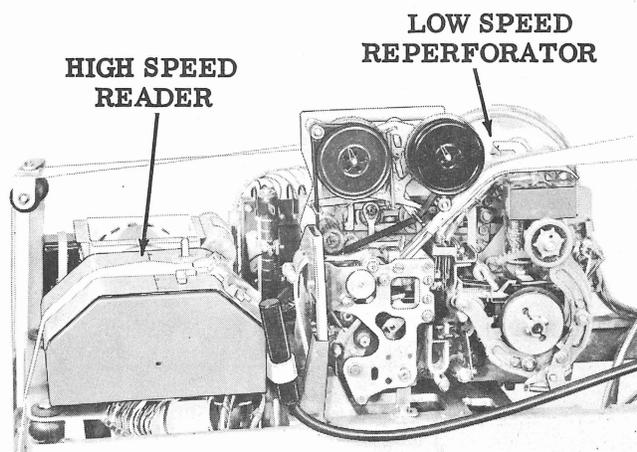

Figure 20 - Low-to-High Punch-Reader Assembly
(2) On L/H Punch-Reader Sets attach the static eliminator probe to the output side of the punch block. Use the cable clamp provided for securing the probe to the high speed reader cover. See Figure 20. On H/L Punch-Reader Sets the static eliminator probe is attached as shown in Figure 22.